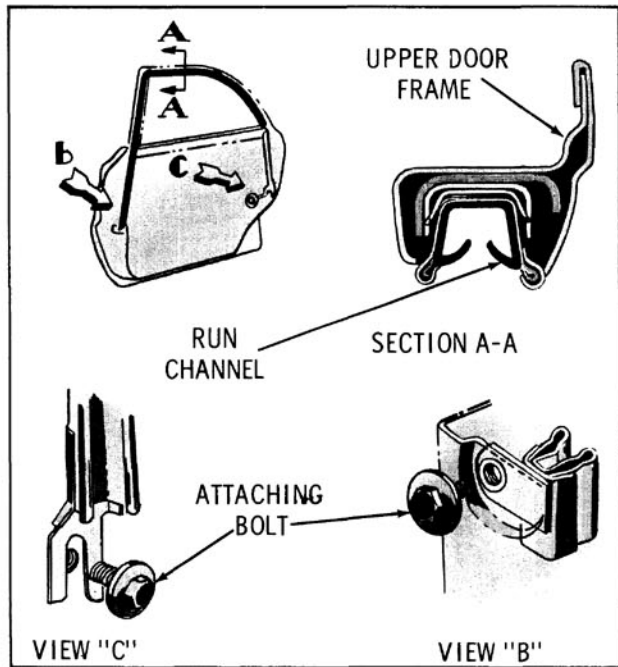

Fig. 16-70 Glass Run Attachments
- In the event of an excessively loose door glass, the run channels can be moved closer to glass by adding shim(s) (washers - not a service part) between door lock or hinge pillar panel and run channel at attaching bolt locations. Fig. 16-70 shows glass run channel attaching bolt locations.
3. Remove front and rear attaching screws from hinge and lock pillar facing of door inner panel. (Fig. 16-70)